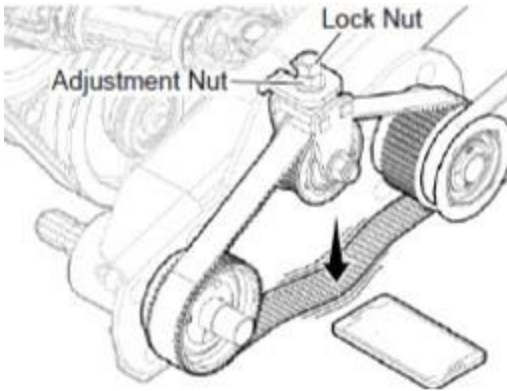

Figure 1
- Use a large wrench and tap the longest strand of the belt about 5 times. See figure 1.
- Change the belt tension by adjusting the jam nuts on the top of the right-hand drive, figure 1.